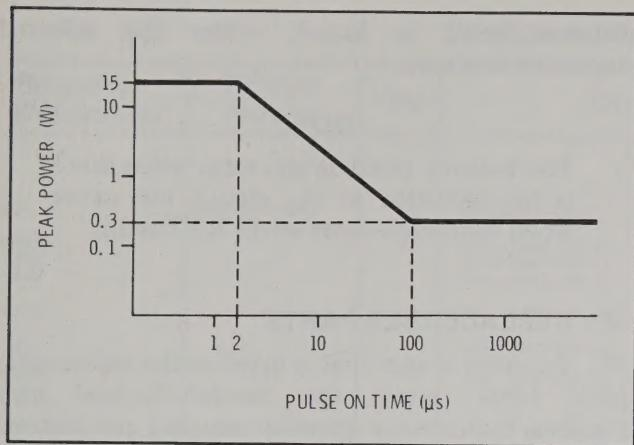
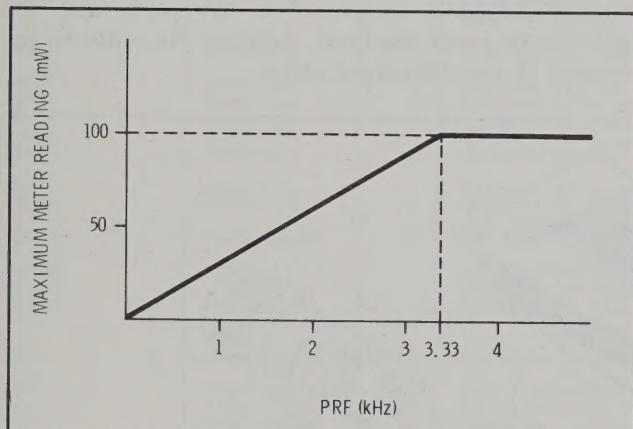

Figure 1. Maximum Energy Input to Power Sensor
Figure 2. Maximum Power Reading vs Pulse Repetition Frequency
Exceeding the energy and power levels shown in Figures 1, 2, and 3 may result in damage to the power meter system.
28. Figure 1 expresses the absolute maximum energy input in graphical form. Figures 2 and 3 show the maximum levels that may be indicated by the power meter, as they relate to pulse repetition frequency (PRF) and duty cycle, and still be within the allowable energy levels expressed in Figure 1.